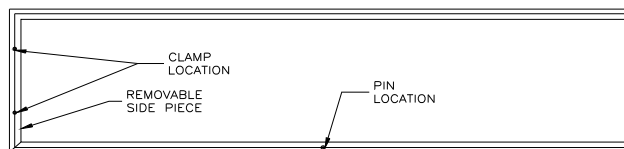

FIGURE 1
- 3.8.4. Remove the pin at the bottom center of the sign (See figure 1).
- 3.8.5. Using a Phillips screwdriver, loosen the clamps on the left side of the sign (see figure 1). The clamp is a "vise type" clamp, the screw will need to be turned counter clockwise until the clamp comes loose from the Kiosk (see figure 2). Do not loosen the clamp all the way as it will come apart.